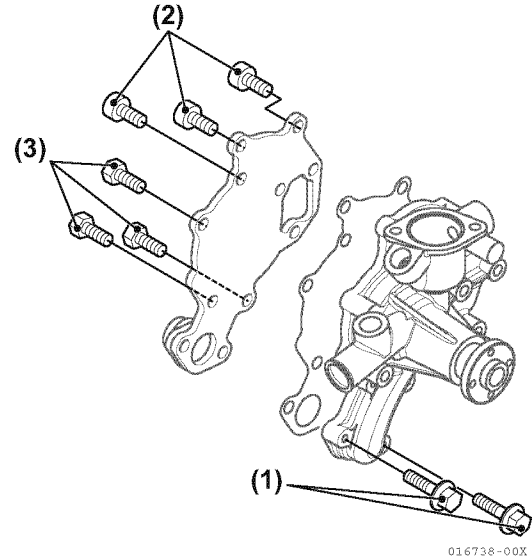

Figure 7-30
9. When installing coolant pump assembly to cylinder block, tighten two bolts (M6x20) at cylinder block inlet to specified torque (**Figure 7-30, (1)**).
Note: When replacing coolant pump and pump cover, tighten M6 bolts to specified torque (**Figure 7-30, (2), (3)**).